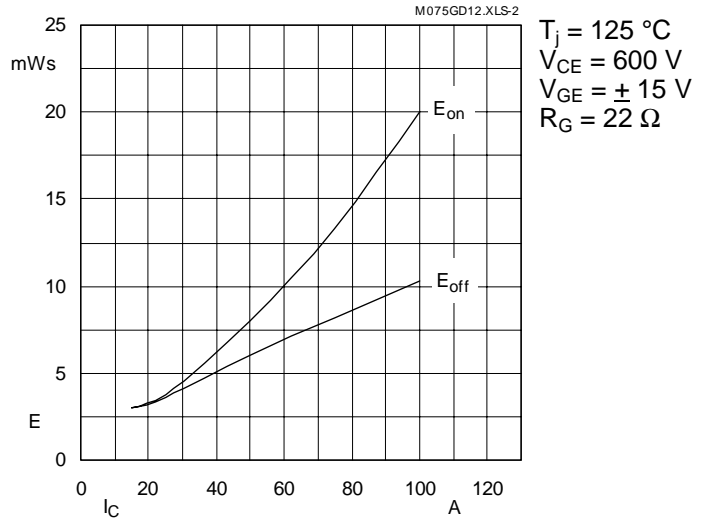

Fig. 2 Turn-on /-off energy = $f(I_C)$
5) See fig. 2 + 3; $R_{Goff} = 22 \text{ }\Omega$